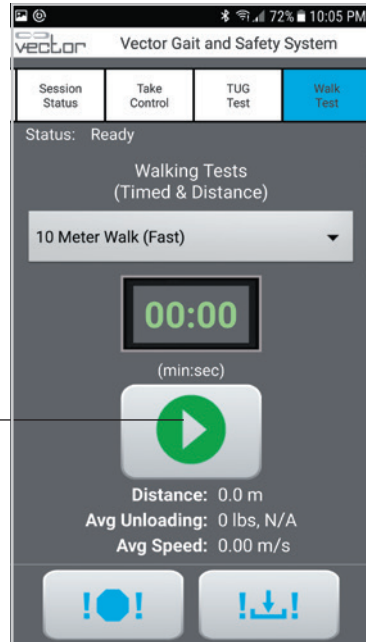

Figure 9-22: TUG Start Screen
4. **For the 5 or 10 Meter Walk Test:** When the patient has accelerated to their comfortable/fast walking pace, press the Start button. See Figure 9-22. If you have placed markers, press the Start button when the patient's front foot crosses the 2-meter mark.